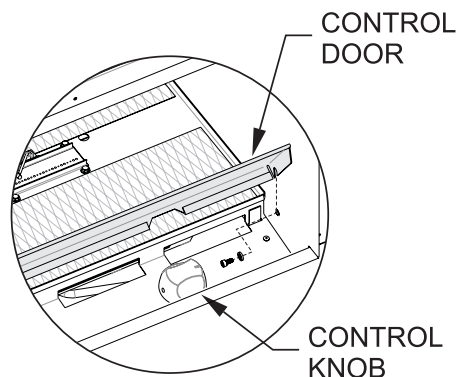

Figure 17
8. To connect the gas line and install the electrical connection, the burner assembly must be tilted upward in the fireplace. To lift the burner assembly, remove the control door by opening the door and lifting it upward to disengage the slots on the door from the pivot pins. Remove the two control door pivot bolts and washers. **See Figure 17.**